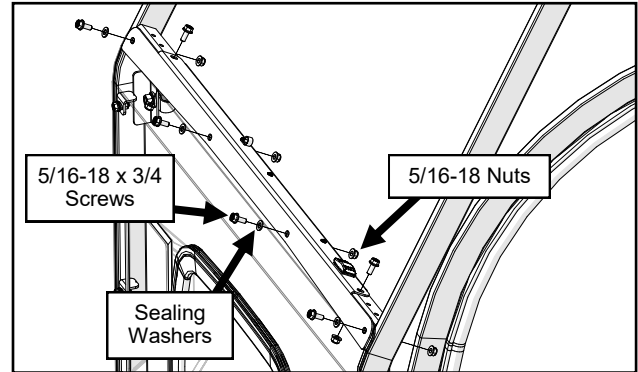

Fig. 11.1 (Install Sheet Metal Cowl)
11.1 With assistance, remove the sheet metal cowl and re-install it on the outside of the clear plastic cowl, then flex both into place and re-secure. See Figure 11.1. Note: the sealing washers are for the 4 exterior screws.